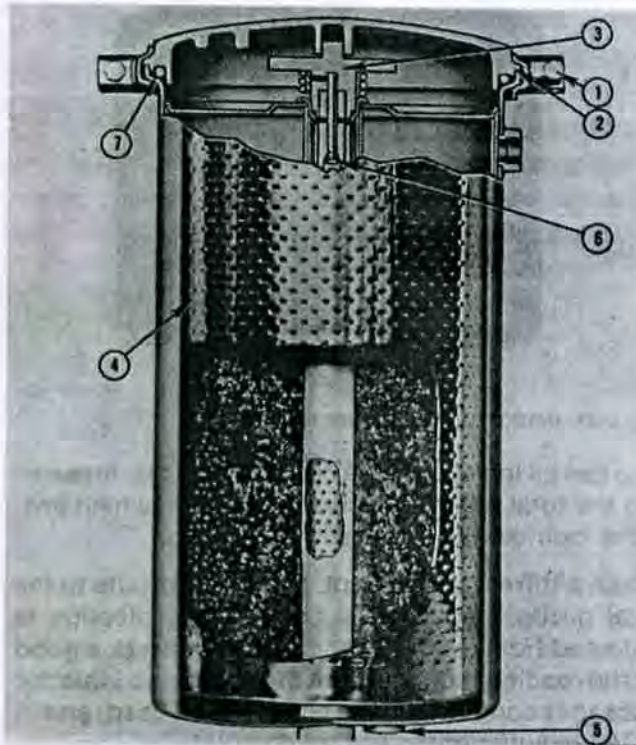

Fig. 2-17, (V41908). By-pass filter cross section
1. Remove the drain plug (5, Fig. 2-17) and drain oil.
2. Remove the clamping ring capscrew (1) and lift off the cover.
3. Unscrew the support hold-down assembly (3); lift out the element (4) and the hold-down assembly. Discard the element.
7. Check the orifice plug (6) inside the oil outlet connection or standpipe; blow out with air to open and clean.
8. Check the filter cover O-ring (7). Replace if necessary.